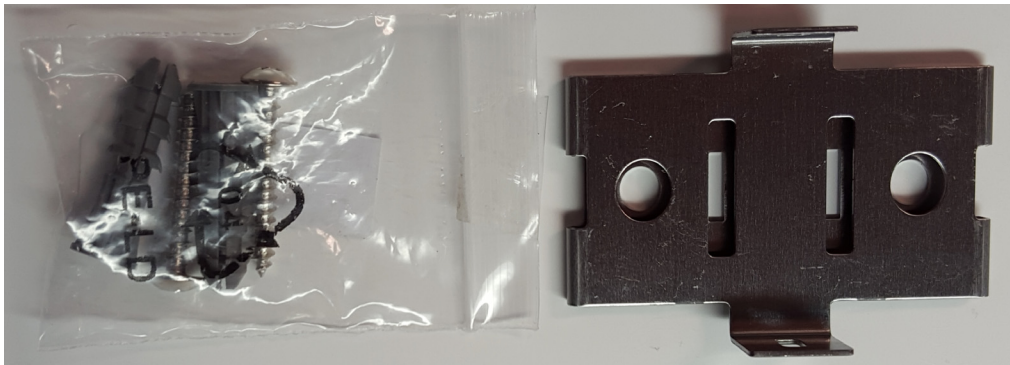

Figure 4-6 Metal Beacon Wall Mount Bracket: MPACT-MB2000-01-WR
- Bracket mount kit see Figure 4-6 (included with part number MPACT-MB2000-01-WR):